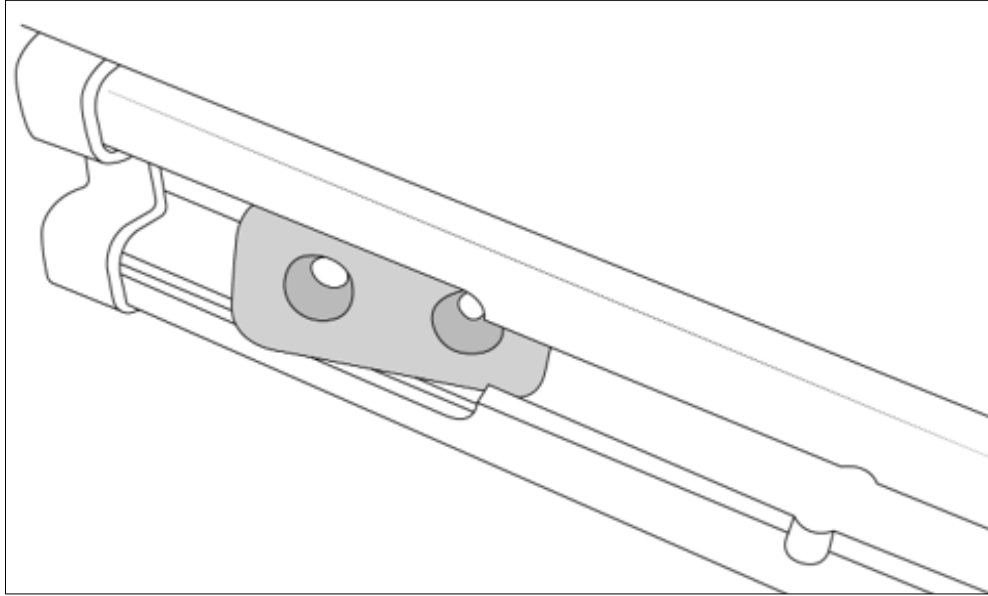
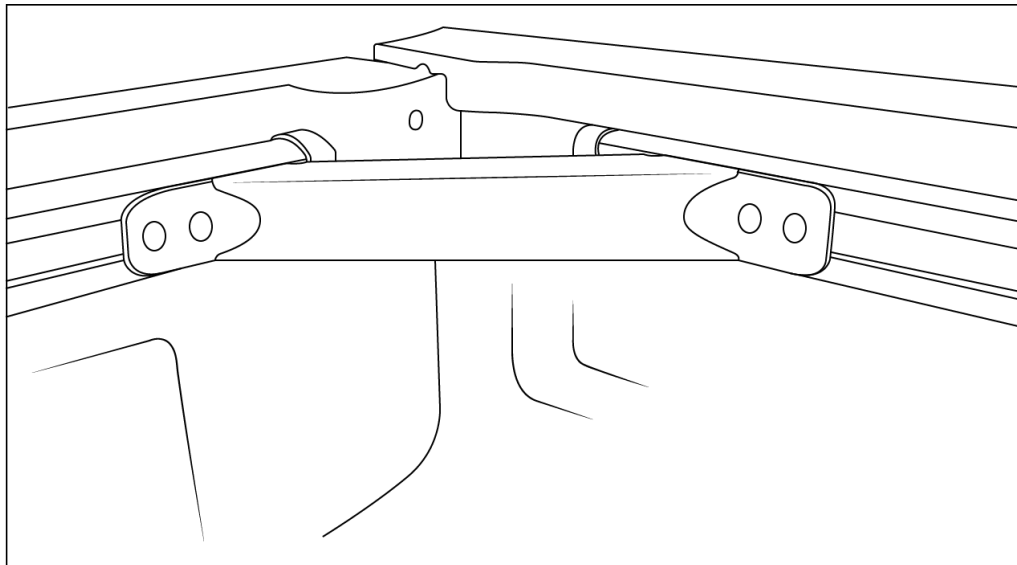

Figure 7
Figure 8
12. Insert a T-slot nut plate into both the forward and side bed rail by the corners of the bed (fig. 7). Align the corner gusset bracket to the two rails (fig. 8) and position the nut plates to align with the bracket holes. Secure down with four M8 x 25mm bolts. Follow these steps for the other side of the bed as well.